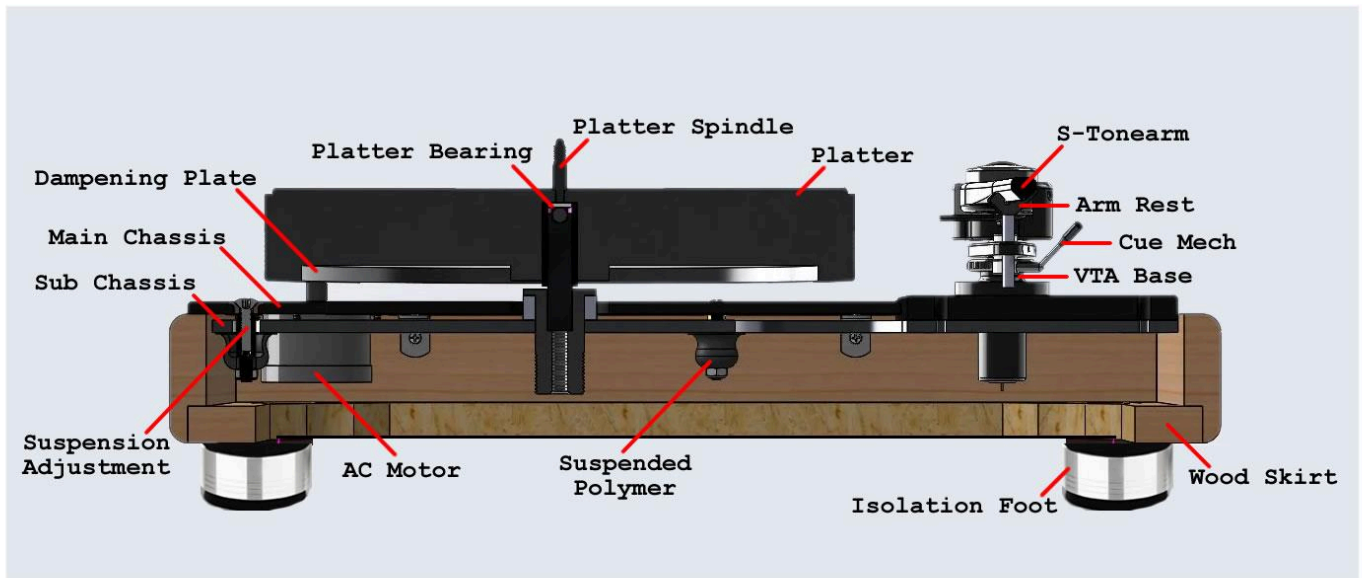
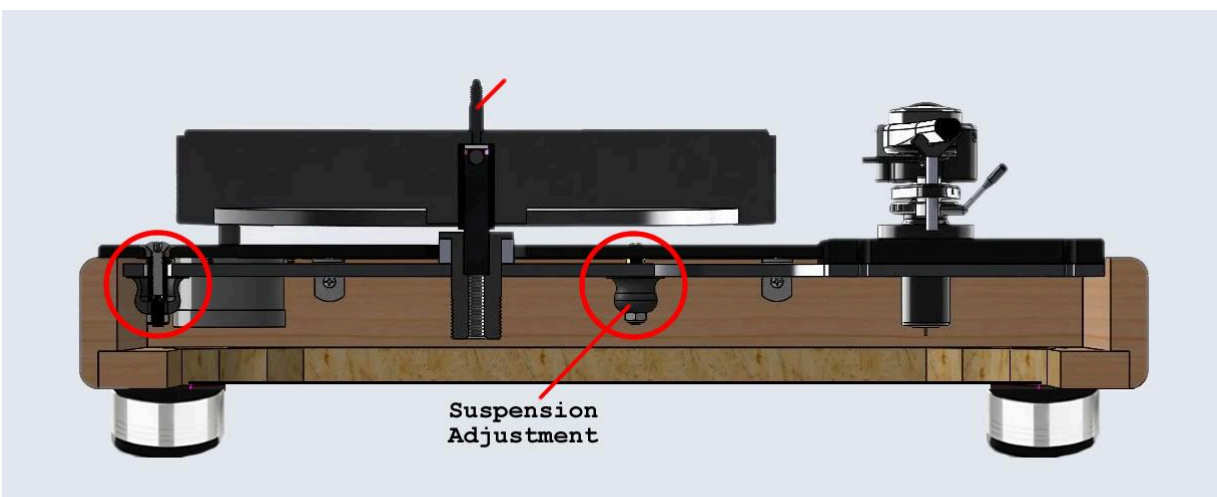

Figure 1 - Model One Anatomy
Figure 4 - Suspension Adjustment Side View
- With the Model One assembled, you can adjust and level your turntable by modifying the suspension mounting screws. This adjustment is labeled as “Suspension Adjustment” in Figure 1 at the beginning of this manual and in Figure 4 and 5 below.